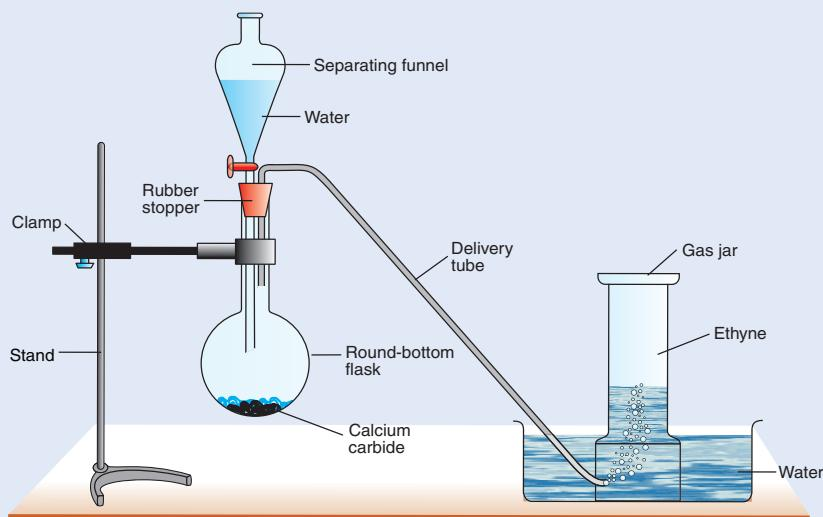

Figure 1.7 Laboratory Preparation of Ethyne.
- Arrange the set up as shown in **Figure 1.7**. Put a layer of sand in a conical flask and place calcium carbide on the sand.